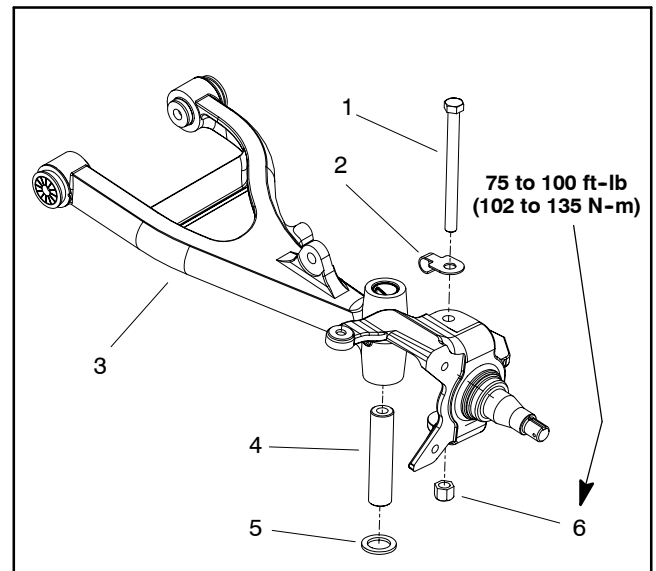

Figure 5
9. Remove spindle (Fig. 5):
1. Install spindle as follows (Fig. 5):